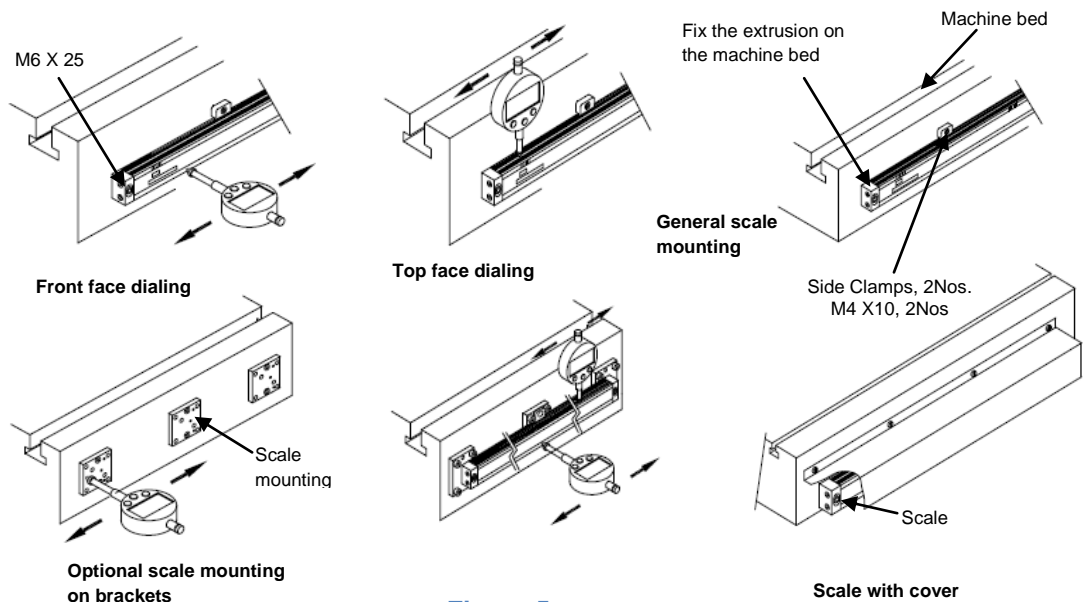

Figure 5
- Mounting brackets should be positioned at the two ends of the scale as shown in the Figure 5. The alignment of the blocks should be checked using dial indicator before mounting the scale. Use side clamps as indicated in Figure 5 at every 500mm.
- Ensure the supplied cover is properly mounted to protect the scale and reader head for the entire length to ensure the reliability and performance of the system. Refer Figure 5.